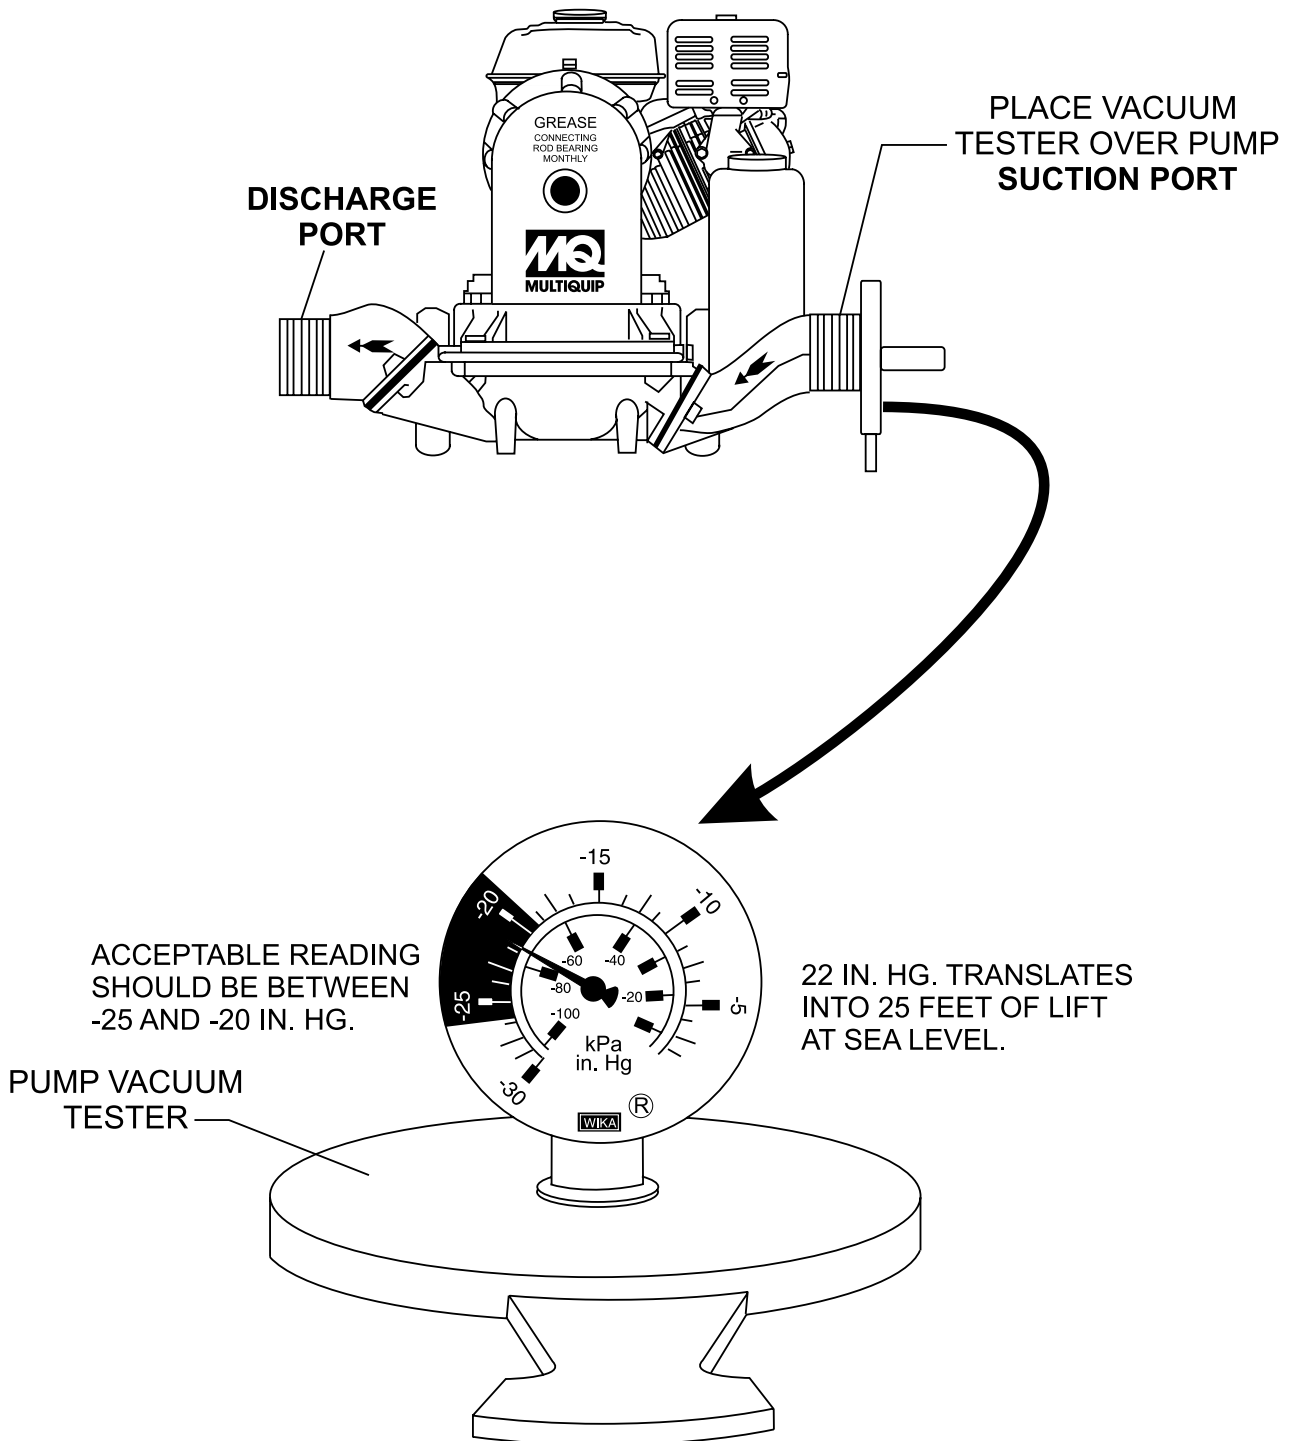

Figure 21. Pump Vacuum Tester
2. Check and make sure that there are no air leaks between the vacuum tester and the inlet port on the pump (Figure 21). If air leaks are present reseal vacuum tester.